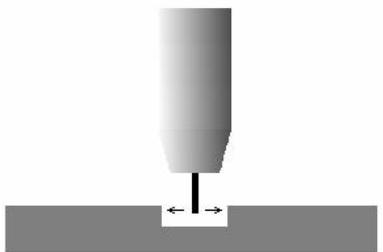

Figure 25 Searching for groove width and groove location, 10. d
1.	Build a seam something like the one shown in Figure 25 Searching for groove width and groove location, 10. d.